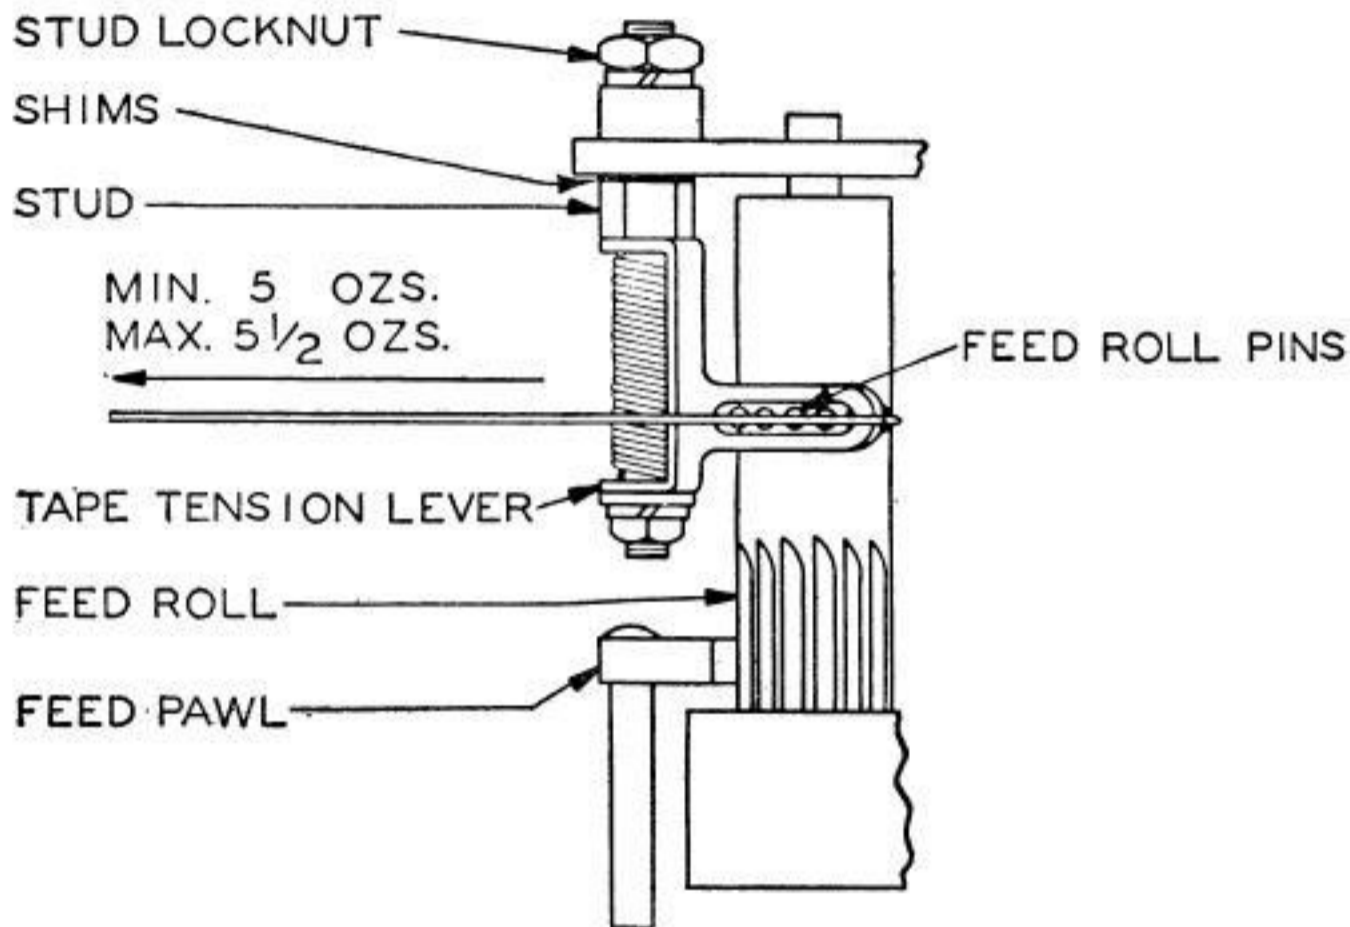

Fig. 7
2.21 **Tape-tension-lever spring:** The tape-tension lever should bear against the feed roll with a pressure as indicated in Fig. 5 measured at the end of the lever and perpendicular to a plane passing through the center of the tension-lever stud and the end of the lever. **Fig. 7**